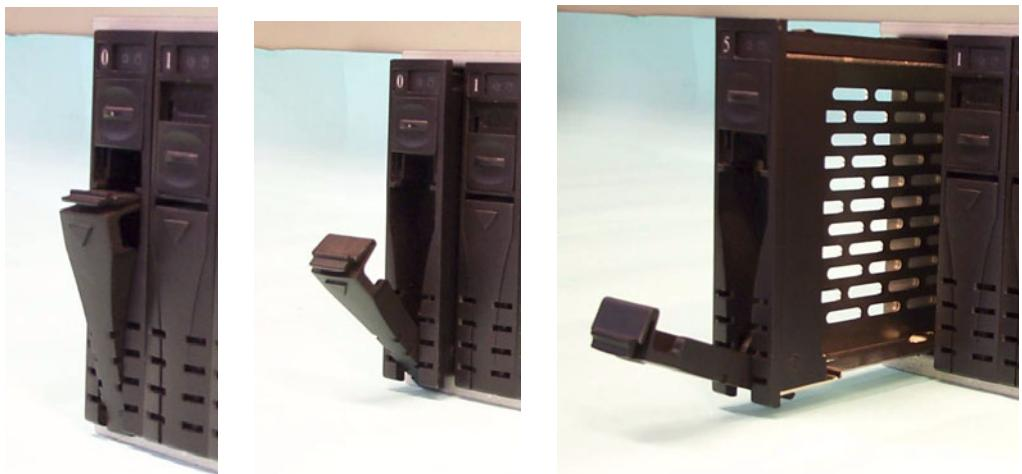

Figure 5.6: Removing the mobile tray
3. Press down the handle of the mobile tray and pull it out as far as it will go. Then completely take out the tray (Refer to Figure 5.6).